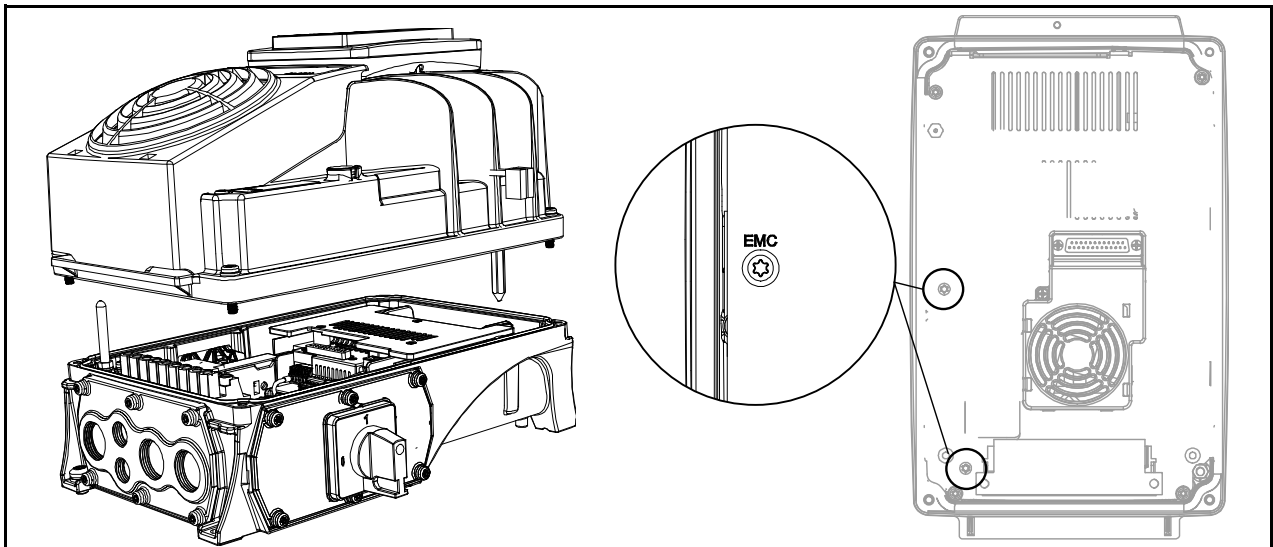
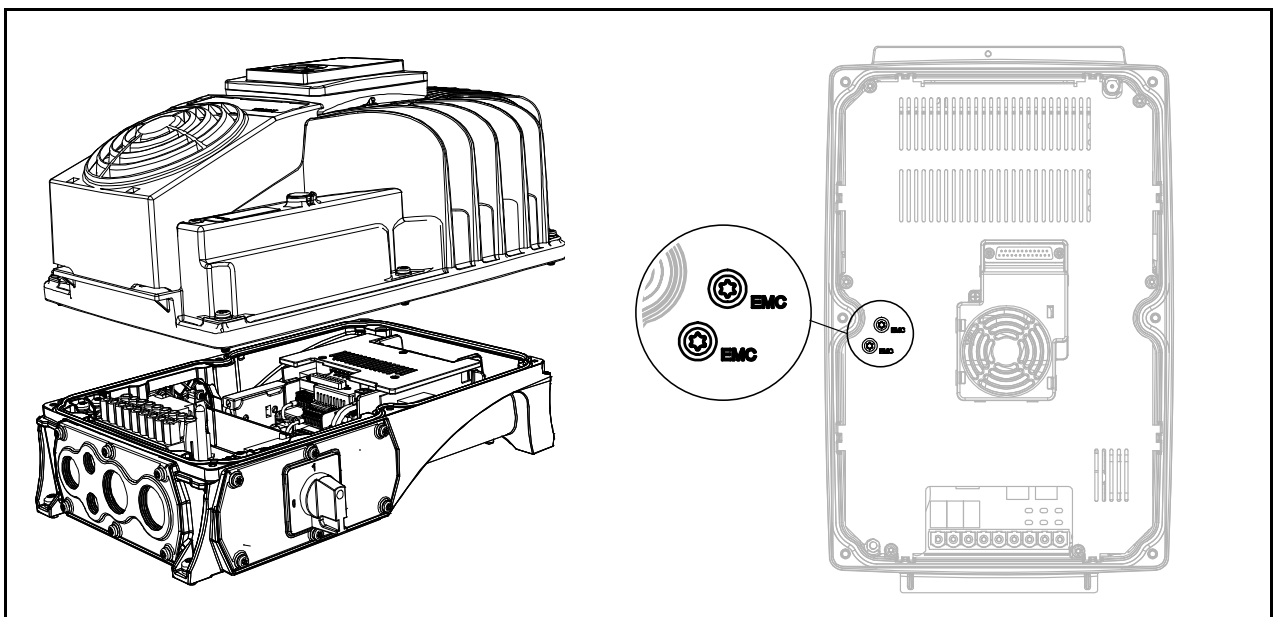
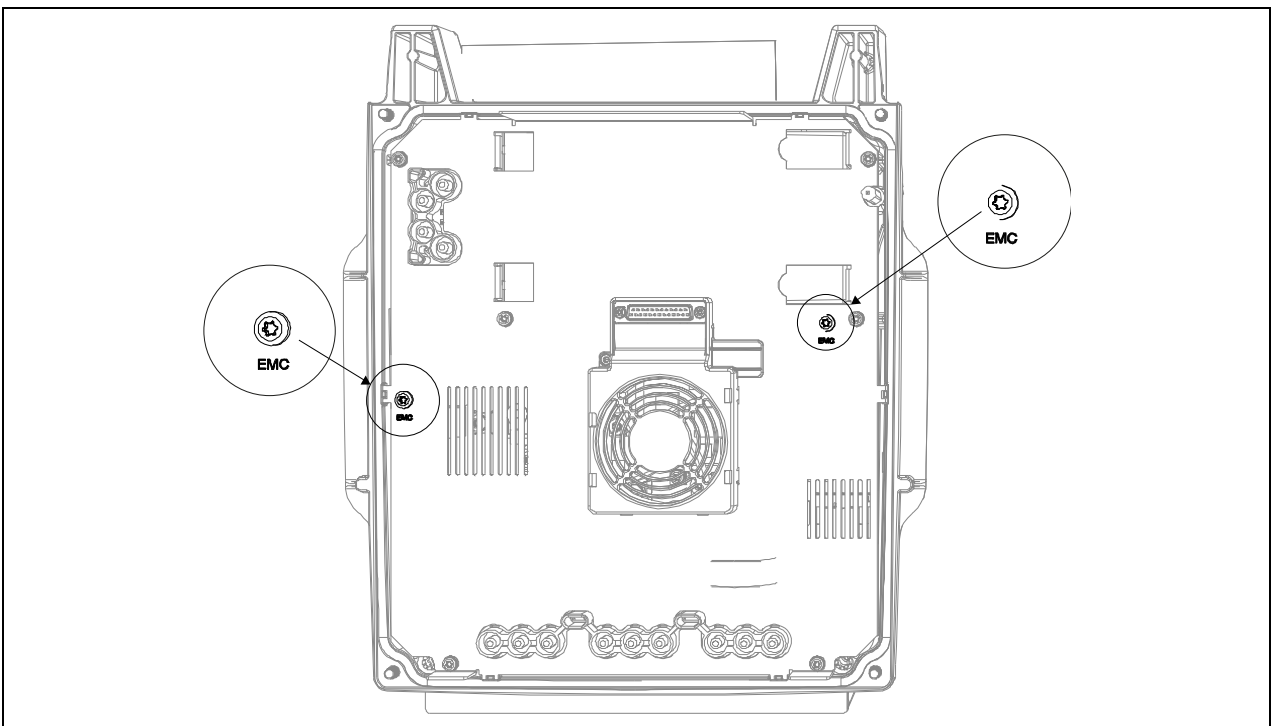

Figure 37. Locations of EMC screws in MM4
Figure 38. Locations of EMC screws in MM5
Figure 40. Locations of EMC screws in MM6
- 1 Separate the powerhead and the terminal box. Turn the powerhead upside down and remove the two screws marked in Figure 37 (for MM4), Figure 38 (for MM5) and in Figure 40 (for MM6).